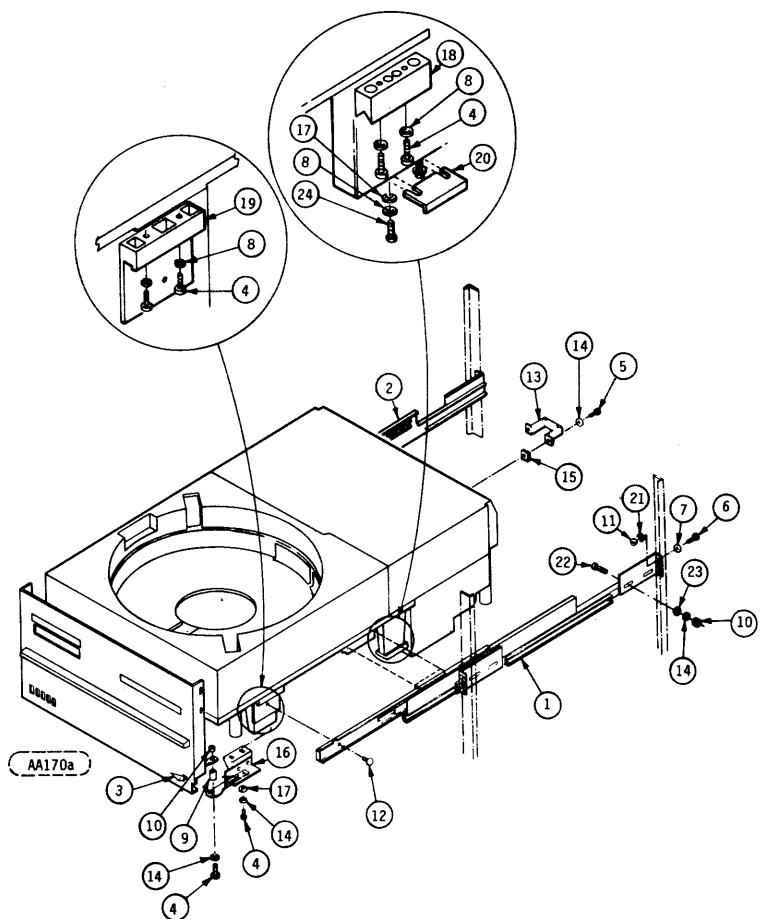

FIGURE 3-6. RACK ASSEMBLY MOUNTING
1. Install plastic slide mounts item (18) and plastic keyed slide mounts item (19) at the sides of the unit as shown in Figure 3-6. Mounting hardware for each of these items consists of two 8-32 x 5/8 inch (31.8 mm) pan head machine screws (4) and two No. 8 internal tooth lock washers (8). Place item (26) on ribbon cable directly behind keyed slide-mount on unit's left side.
For correct orientation of the unkeyed mounts, the V Groove channels in the mounts should open downward. The flat side of the keyed mounts should be inboard and pointing downward, see Figure 3-6.
2. Install plastic stabilizers item ⑩ at the sides of the unit as shown in Figure 3-6. Mounting hardware for each of these items consists of two 8-32 x 1/2 in. (12.7 mm) pan head machine screws ⑪, two No. 8 internal tooth lock washers ⑫, and two No. 8 flat washers ⑬.
10. Place Loctite (Grade C) on 8-32 x 5/16 (7.94 mm) pan head screws (12) and install through each slide into keyed mount-slide.
12. Install knob assembly item (3) and latch assembly item (16) together and in the unit as shown in Figure 3-6.
Hardware used to attach the knob assembly to the latch assembly consists of one each 8-32 x 5/8 inch (15.9 mm) pan head machine screw (4), No. 8 internal tooth lock washer (14), 8-32 x 1/4 inch (6.4 mm) spacer (9), and 8-32 hex machine nut (10). Reference: Figure 3-6.